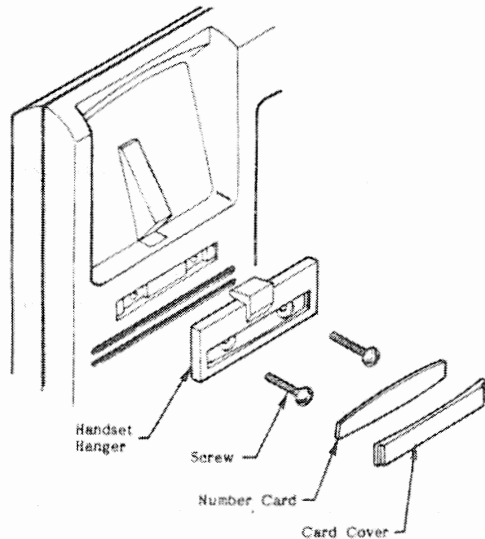

FIGURE 21
**08.21** Refer to Figure 21, the optional handset hanger kit (available from Toshiba Telecom) must be used whenever the EKT is wall-mounted.